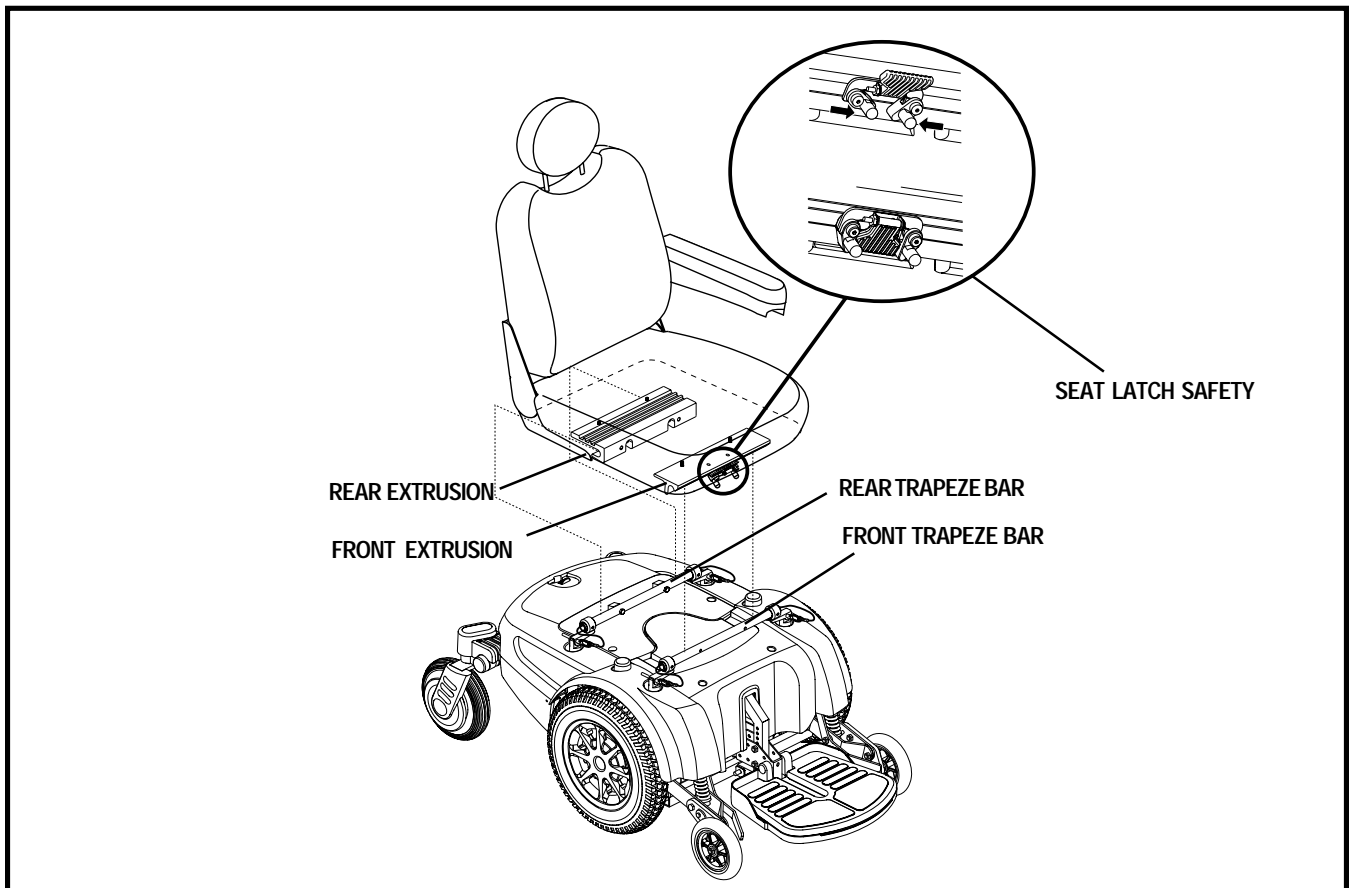

Figure 10. Seat Installation
Most seats are attached to the power base with the Universal Mounting System (UMS). The UMS consists of universal parts that may be attached to any medium-back or high-back seat, regardless of seat width or seat depth. The two main components are aluminum extrusions mounted to the seat base. These extrusions attach to a pair of trapeze bars that are mounted to the power base. See figure 10. If your power chair is equipped with a Synergy Seat, refer to the information provided in separate manuals.
2. Tilt the seat back and slide the rear extrusion onto the rear trapeze bar. See figure 10.